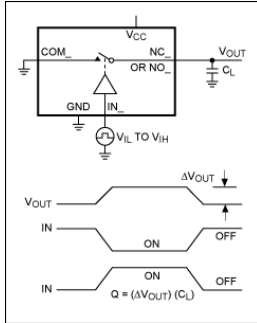
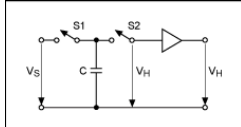

Figure 6A. Charge injection from the switch-control signal causes a voltage error at the analog output.
Figure 6B. A typical track-and-hold function in an ADC requires precise control of the analog switches.
There is another negative consequence of low R_{ON}: A higher charge injection can result from higher levels of capacitive gate current. A certain amount of charge is added to, or subtracted from, the analog channel with every on or off transition of the switch (Figure 6A). For switches connected to high-impedance outputs, this action can cause significant changes in the expected output signal. A small parasitic capacitor (C_L) with no other load adds a variation of ΔV_{OUT}, so charge injection can be calculated as Q = (ΔV_{OUT})(C_L). A track-and-hold amplifier, which maintains a constant analog output during conversion by an analog-to-digital converter (ADC), offers a good example of this (Figure 6B). Closing S1 charges the small buffer capacitor (C) to the input voltage (V_S). The value of C is only a few picofarads and V_S remains stored on C when S1 opens. The held voltage (V_H) is applied to the buffer by closing S2 at the beginning of a conversion. The high-impedance buffer then maintains V_H constant over the ADC's conversion time. For short acquisition times, the track-and-hold's capacitor must be small and S1's R_{ON} must be low. Note, moreover, that charge injection can cause V_H to change by ±ΔV_{OUT} (a few millivolts), thereby affecting the accuracy of the following ADC.